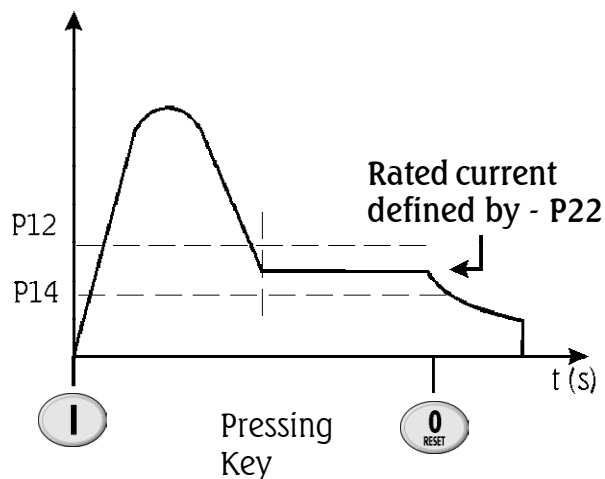

Figure 6.4 - Protection against over/undercurrent at duty
☑ It adjusts the instantaneous overcurrent level that the motor or Soft-Starter permits during a time preset at P13, after then the switch is switched Off, indicating E06, as shown in Figure 6.4.
- It set the minimum undercurrent that the Motor + load can operate without problems. This protection actuates when the current of load (Figure 6.4) goes to a value lower than set in P14; and for a time equal or higher than preset in P15, indicating error, E05.